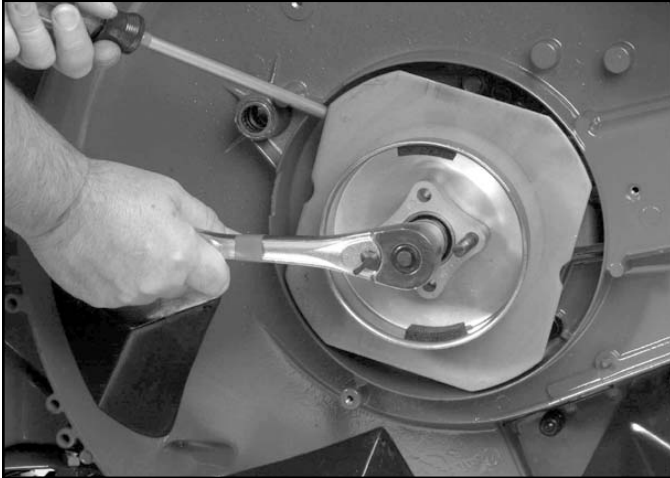

Fig 190
6. Now, disassemble the components on the crankshaft. If you have an impact wrench, the large nut on the crankshaft can be spun off. If you must remove it manually, wedge a bar or large screwdriver into the BBC flywheel (Fig. 190). This will hold the crankshaft so the nut can be removed.